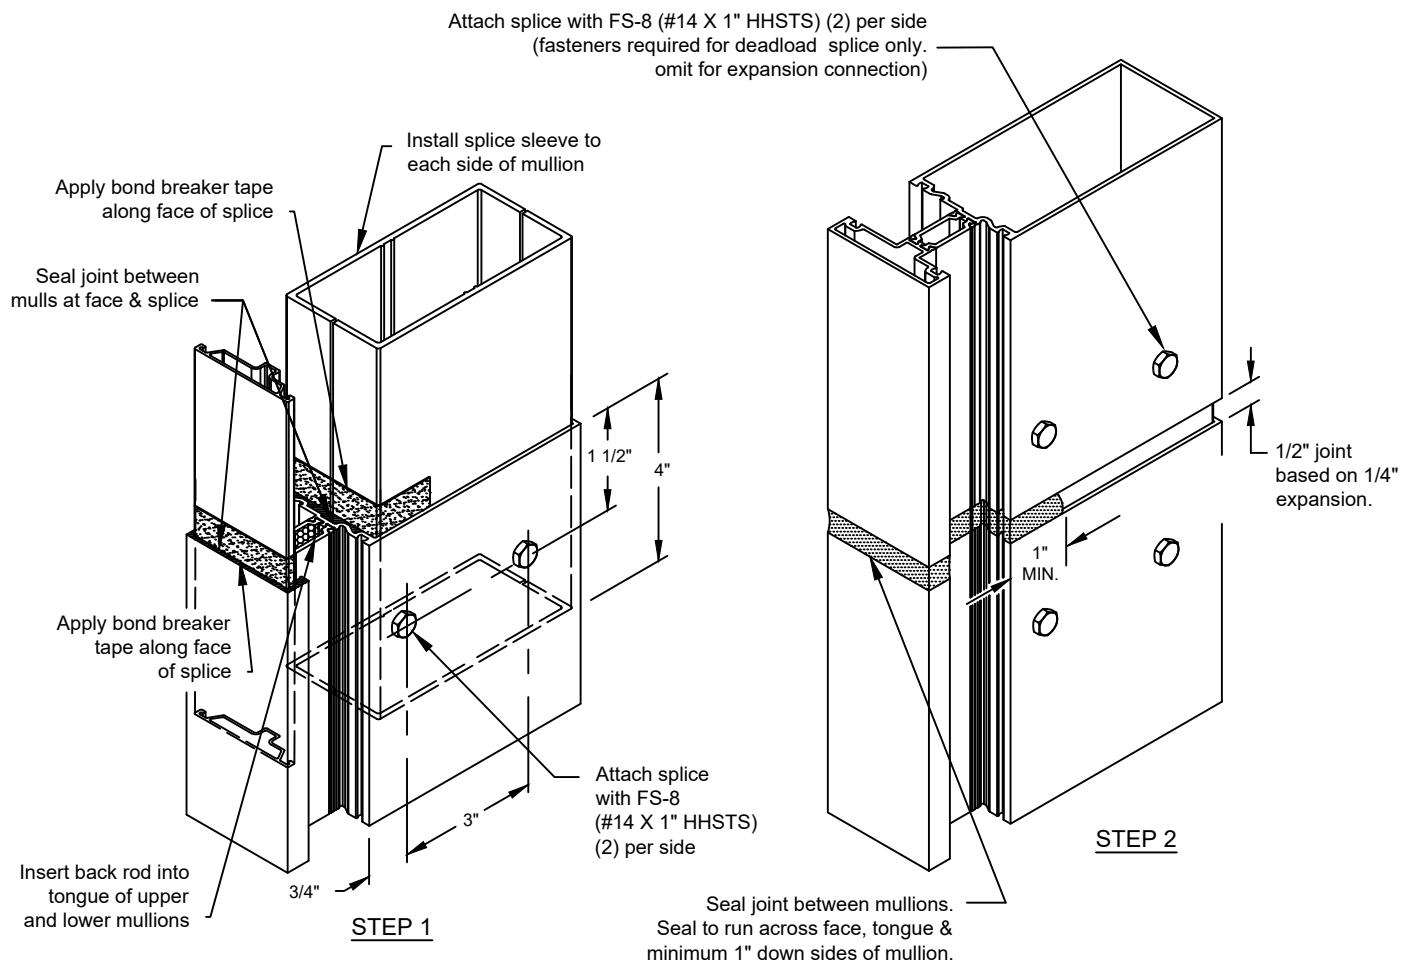
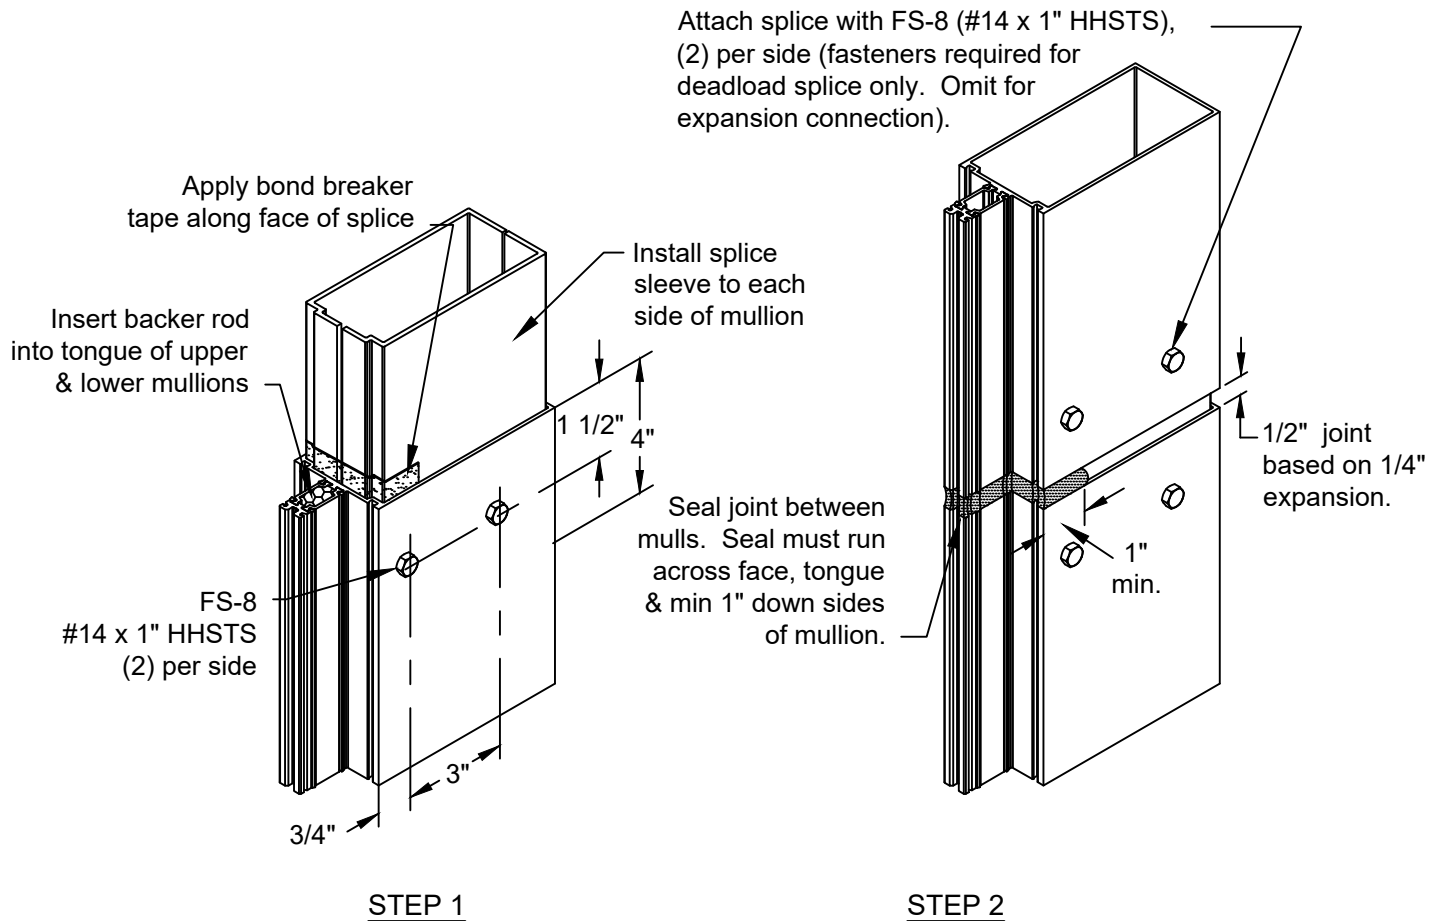

FIGURE 9
FIGURE 10
2.1.14 Install the next vertical above, temporarily shimming between verticals to maintain proper splice joints (refer to approved shop drawings). **SEE FIGURE 9 & FIGURE 10, page 15.**